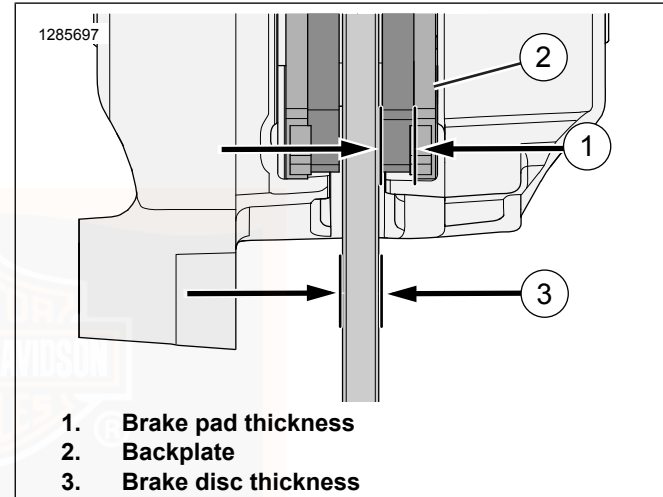

Figure 52. Brake Thickness
2. See Figure 52. Measure the thickness of the brake pad friction material.